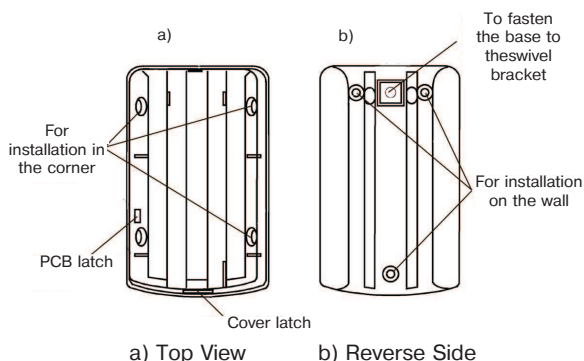

Figure 3 – Base
- Remove the detector cover after depressing the latch located at the bottom of the detector base with a screwdriver (Figure 3).